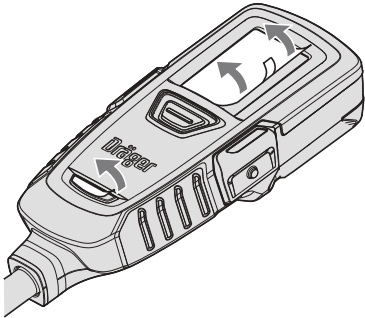

Fig. 7 Removing film covers
1. Remove the film covers before the first use (Fig. 7).